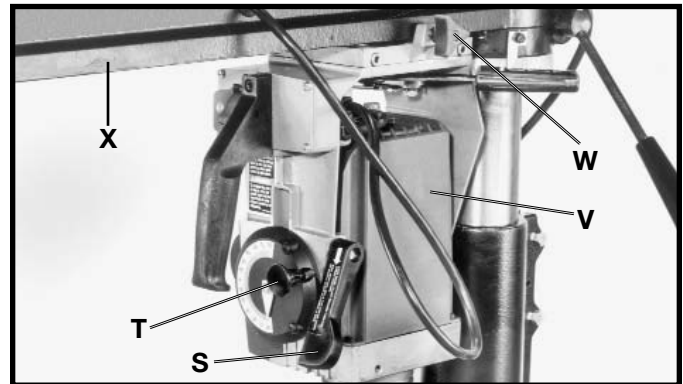
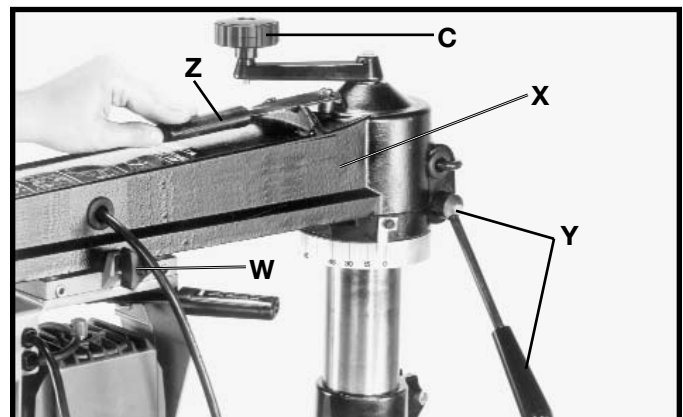
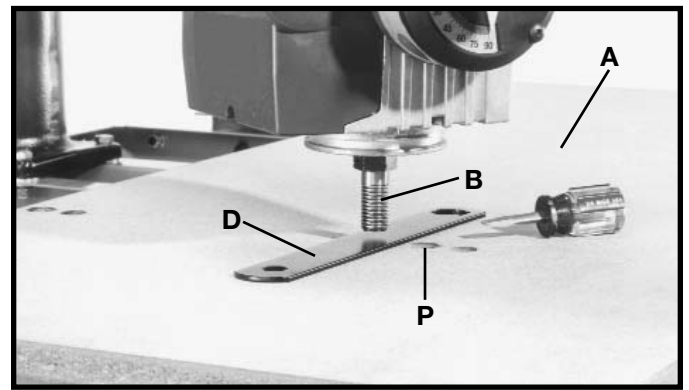

Fig. 23
Fig. 24
Fig. 25
8. Loosen bevel clamp lever (S) Fig. 23, pull out bevel index knob (T), and rotate motor (V) to the vertical position as shown, until bevel index engages. Then tighten bevel clamp lever (S). **NOTE: If the motor shaft contacts the table board before the motor is fully rotated, raise the track arm (X) Fig. 24, by turning elevating handle (C).**
9. Loosen cutting-head clamp knob (W) Fig. 23, and move cutting-head to the front of track arm (X). Then tighten cutting-head clamp knob (W).
10. Loosen track arm clamp handle (Y) Fig. 24. **NOTE:** Track clamp handle (Y) Fig. 24, has left handed threads. Press down on indexing release handle (Z) Fig. 24, and pivot track arm (X) Fig. 24, to the left until motor shaft (B) Fig. 25, is near front left adjustment screw (P) Fig. 25, of table board (A) Fig. 25, as shown. Then tighten track arm clamp handle (Y) Fig. 24.
11. Place an arbor wrench (D) Fig. 25, between table board (A) and motor shaft (B). Lower track arm (X) Fig. 24, by turning elevating handle (C) counterclockwise until motor shaft (B) Fig. 25, barely touches arbor wrench.